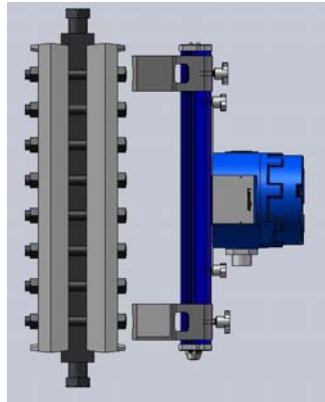

Figure 1
- 1) Align Lumastar assembly with rear (side with bolt heads) of gauge. Loosen bracket thumb nuts and adjust the position of the brackets to line up with their respective bolts on the gauge as shown in Figure 1. Tighten the thumb nuts to secure in place. When possible, use the 2nd set of bolts from the edge of the cover plate.